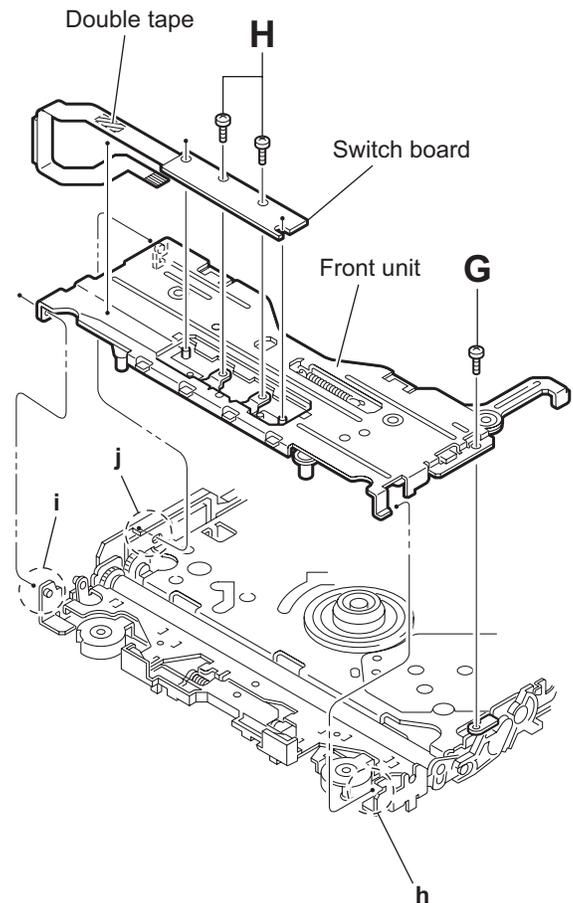

Fig.12
- (4) Remove the two screws **H** attaching the switch board. (See Fig.12.)